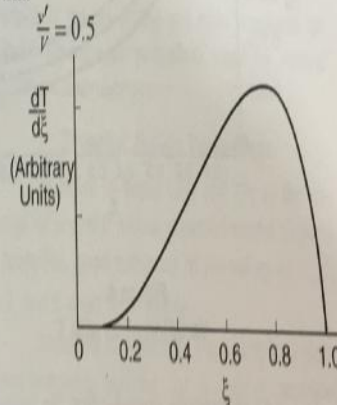

Figure 2.
ϵ is not likely to be constant, particularly since C_L and the Reynolds number in general will vary along the blade. However, over the outboard portion of the blade which provides most of the thrust, ϵ is constant may be a reasonable approximation. Figure 2 contains the radial thrust distribution calculated using (25) with